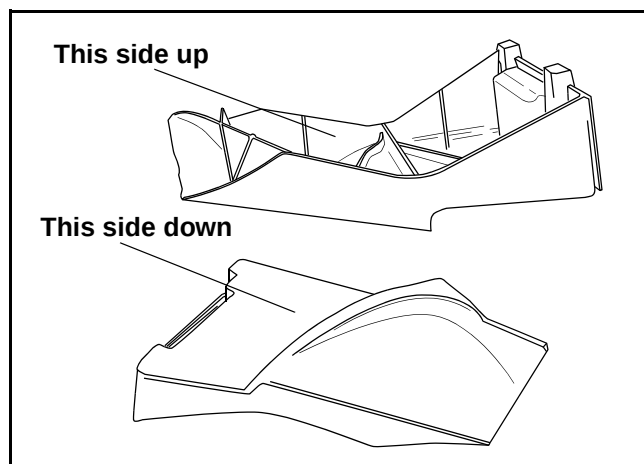

Figure 10
The mulching Plug is used only for mulching purposes. Instead of collecting grass clippings in a grass catcher, this mower has the option of recirculating the clippings back to the lawn. Refer to Figure 10.
- For the correct orientation when installing see Figure 10.